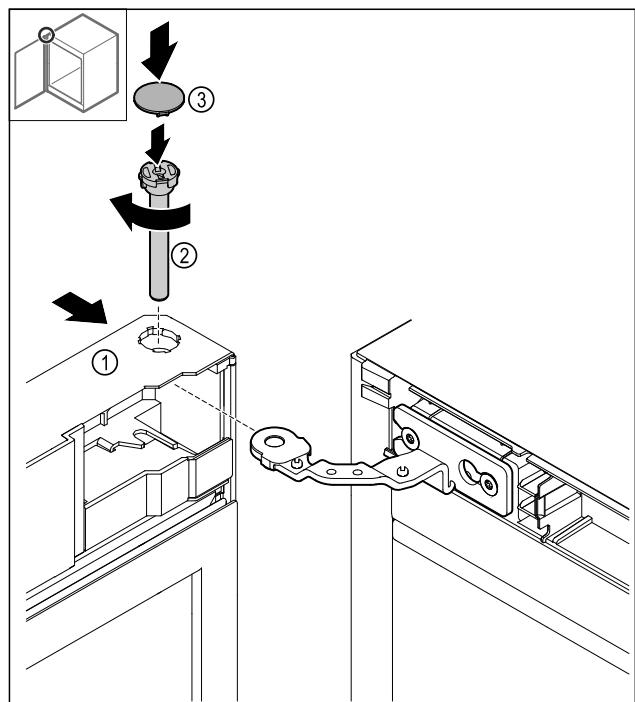

Fig. 50
- ▶ Push the door Fig. 50 (1) up onto the hinge.
- ▶ Insert the pin Fig. 50 (2) firmly screw it in clockwise.
- ▶ Put on the Fig. 50 (4) cover.